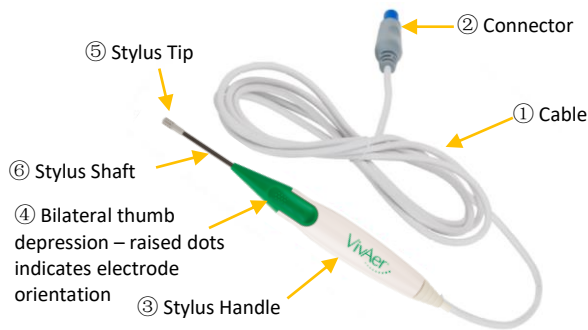
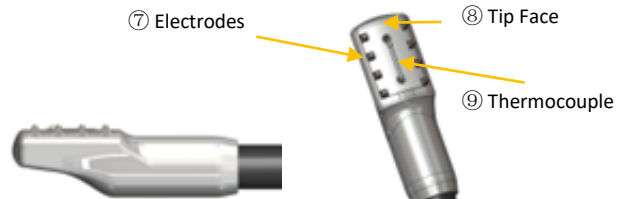

Figure 1: VivAer® Stylus
Figure 2: VivAer® Stylus Tip
The VivAer® Stylus consists of a handle, shaft and treatment tip (see Figure 1). An array of bipolar electrodes is positioned on a non-conductive tip (see Figure 2) which is attached to a handle via a non-conductive shaft. A temperature sensor is located on the tip (see Figure 2) to monitor tissue temperature. The Stylus is attached to a temperature-controlled radiofrequency generator via a flexible cable.
15. Position the electrode-containing portion of the tip of the Stylus against the target tissue of the nasal airway and exert gentle pressure. The orientation of the electrodes may be verified by the raised dots on one side of the Bilateral Thumb Depression on the Stylus handle. Refer to Figure 1.